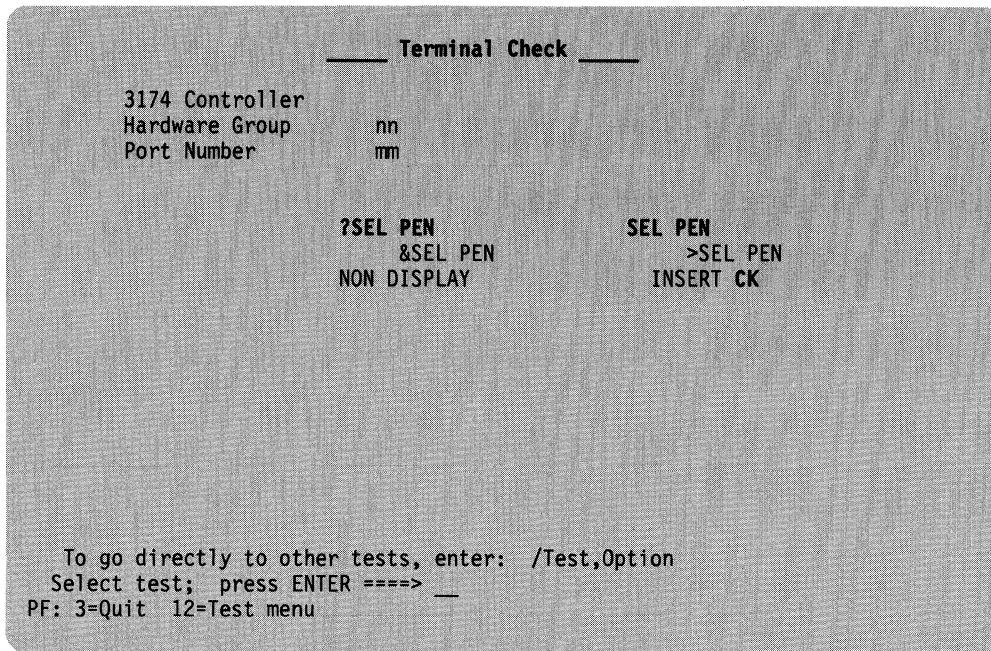

Figure 4-2. Test 0: Terminal Check Panel
3. Press **Enter**. The test pattern shown in Figure 4-2 is displayed.